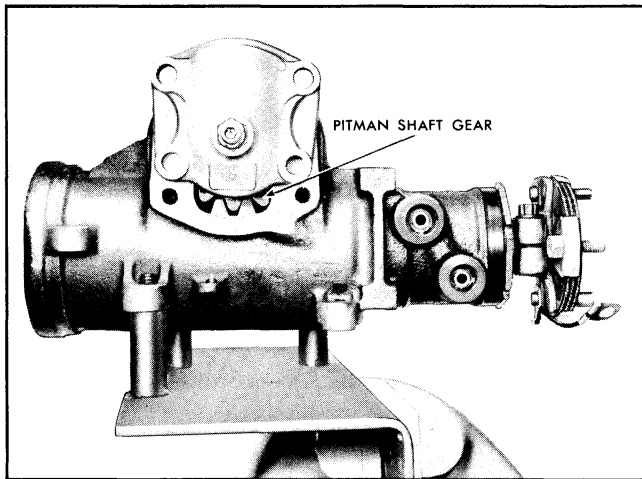

Fig. 9A-8 Position of Pitman Shaft Gear for Removal
1. Remove end plug retaining ring as shown in Fig. 9A-7.